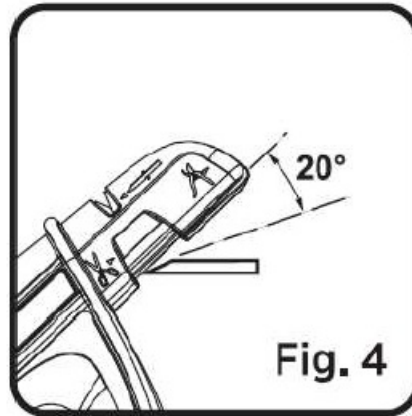

Fig. 4
- Angle between the edge being sharpened and carbide C should be approximately 20 degrees. (See Fig. 4)